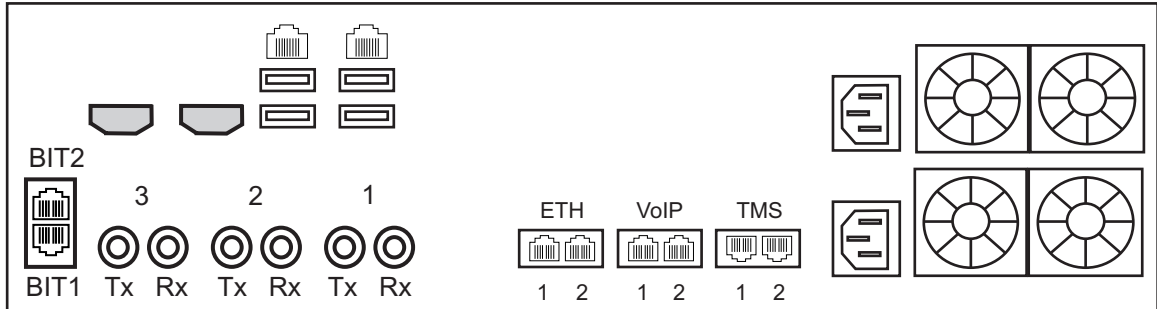

Figure 2.7 DS3 Interface to the PSTN
A TMP5900 with 3 sets of BNC connectors enables the connection to DS3 lines. See figure 2.7 on page 17
- 1. Start with the Dual BNC port pair #1 (right-most) as shown in figure 2.7 on page 17. Connect one pair of BNC cables between this port and the DS3 line.